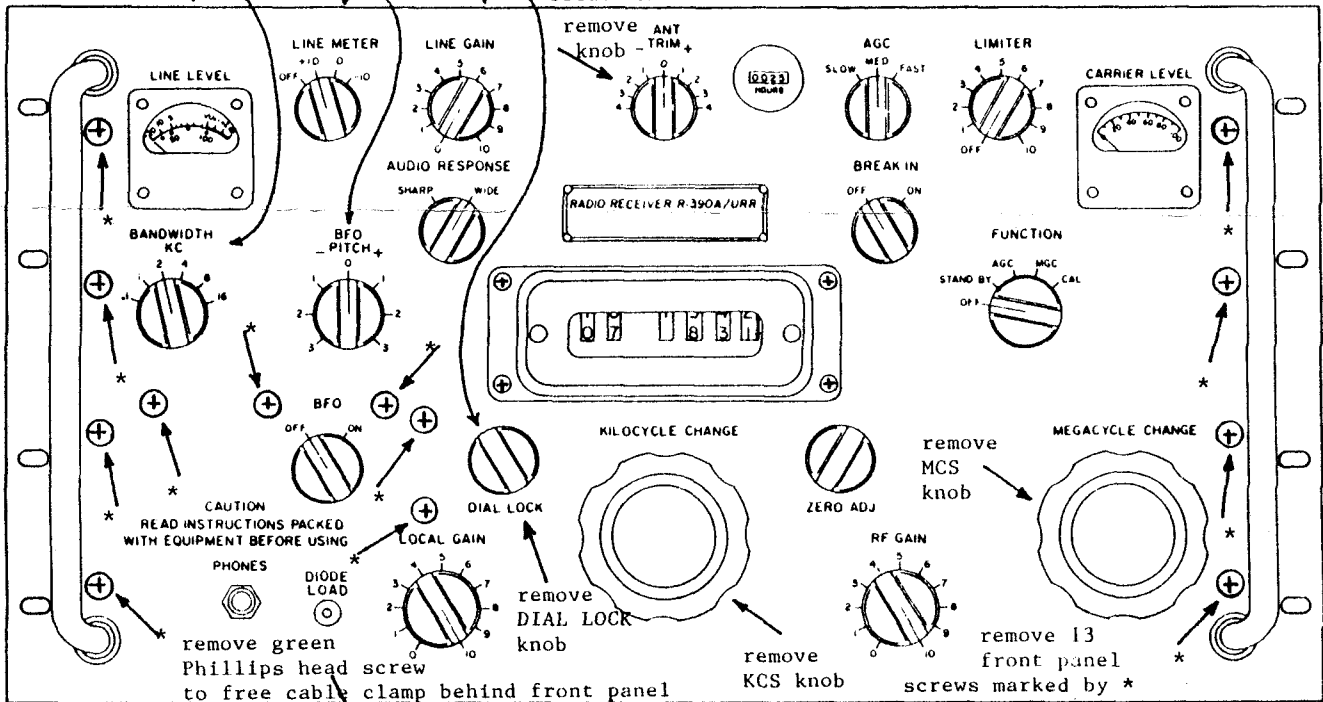

FIG. 1 Front Panel Removal
To determine if the Veeder Root counter (the MCS/KCS counter; see Fig. 1) is aligned (1) turn the
the non-mar clamp on the right side bevel gear of the Veeder Root counter and reset the digit drum of the counter to read 07+035 with the KCS knob at the 07+ stop. The bevel gear can be accessed by removing the counter cover plate which is attached to the front panel by 4 Phillips head screws; see Fig. 1. After tightening the non-mar clamp on the bevel gear, turn the KCS knob through its range to make sure that the bevel gear is not binding and that there is no backlash in the digit drum. If there is binding or backlash, loosen the non-mar clamp, reposition the bevel gear, tighten the
If all of the cam tips do not align at the same frequency, remove the front panel (see Fig. 1), set the KCS knob to the 07+ stop, align the Veeder Root counter to 07+035, set the KCS knob to 07+000, and for each cam loosen the non-mar clamp on the gear in front of the cam, set the cam tip to its alignment line, and tighten the non-mar clamp. It may be necessary to remove the associated rack tension springs when aligning a cam tip.